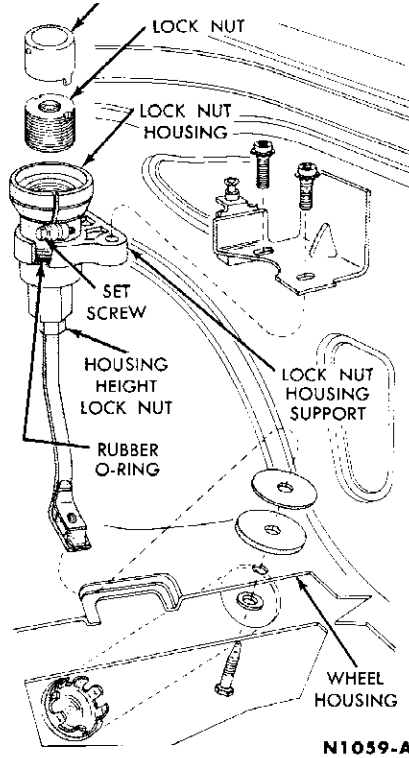

FIG. 15—Deck Lid Lock Screws
2. From the underside of each wheelhouse, remove each deck lid lock retaining screw (Fig. 15).